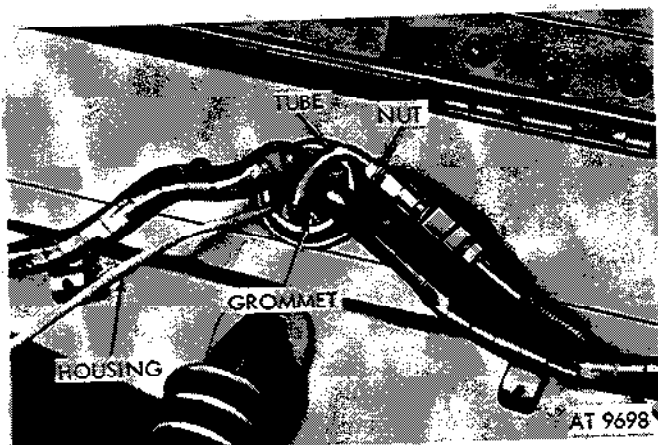

Figure 2-232. Remove tube and grommet.
(17) Remove vent tube nut from fitting. Pull vent tube through grommet (fig. 2-232).
(18) Remove two grommet retainer mounting screws and lockwashers and remove grommet retainer. Pull grommet free of firewall and pull it off choke cable housing. Push choke cable housing through firewall (fig. 2-232).